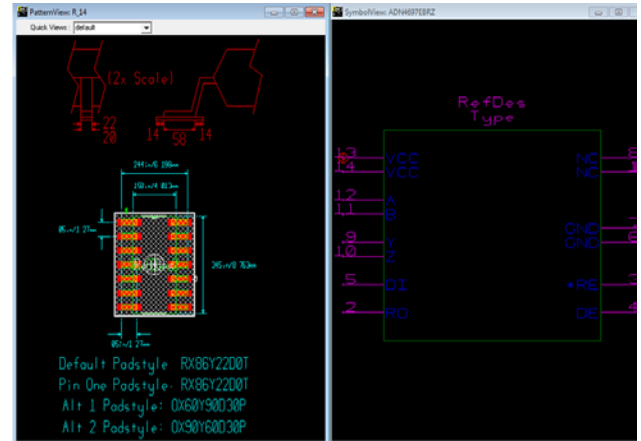

Figure 5. **ADN4697E** M-LVDS Transceiver Footprint and Symbol Window Using Ultra Librarian Reader
4. Navigate to the ADN4697EBRZ.bxl file. Figure 5 shows the symbol and footprint for the **ADN4697E**.